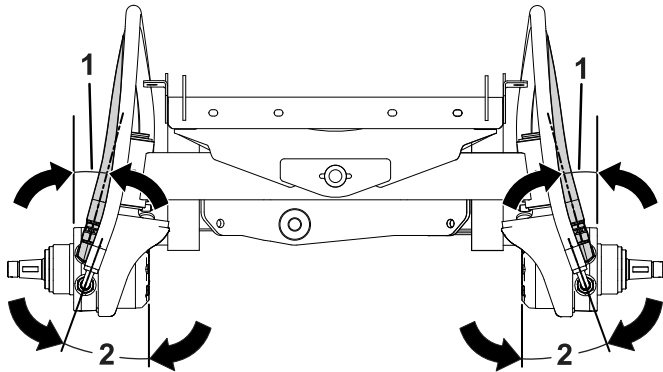

Figure 12
4. Adjust the 90° elbow fitting to a 15° angle as shown in **Figure 12**.
8. Adjust the 90° hose elbow to a 20° angle as shown in **Figure 12**.
Note: Ensure the angles are maintained as shown in **Figure 12**.